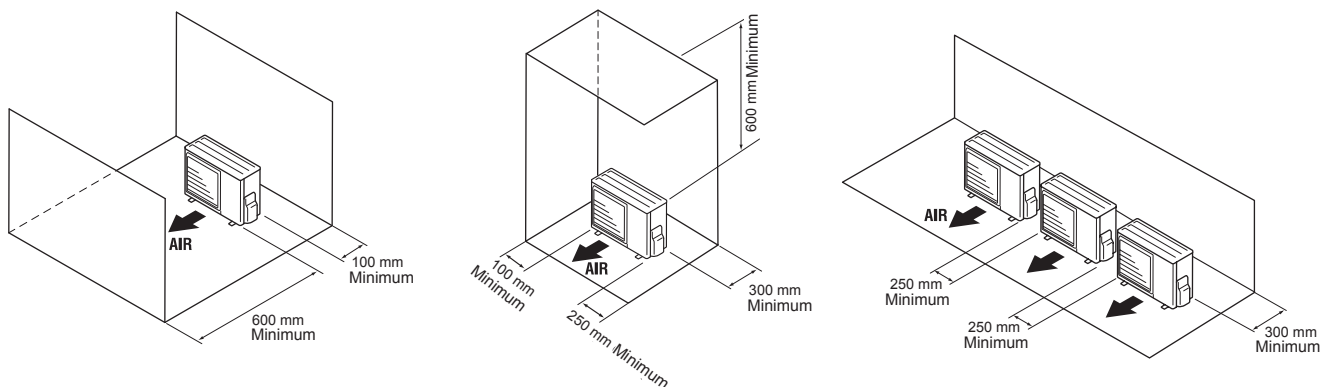

figure 15 - Minimum installation clearances around outdoor unit (models extensa + 5, 6, 8 & 10)
- ☞ **The outdoor unit must only be installed outdoor (outdoors). If a shelter is required, it must have broad openings on the 4 walls and observe the installation clearances (figure 15).**
- The unit must be easily accessible for future installation and maintenance work (figure 15).
- Nothing should obstruct the air circulation through the evaporator and from the fan (figure 15).